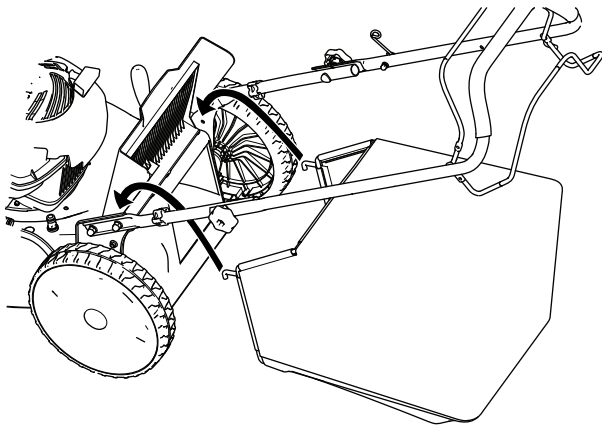

Figure 18
3. Install the grass bag, ensuring that the pins on the bag rest in the notches on the handle (Figure 18).
1. Raise and hold up the rear door (Figure 18).